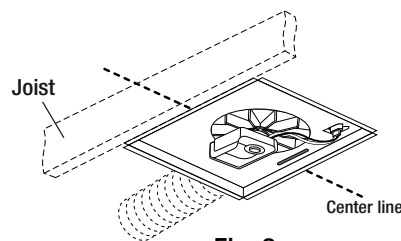

Fig. 2
- Mark the center line of the existing fan opening as shown in figure 2.